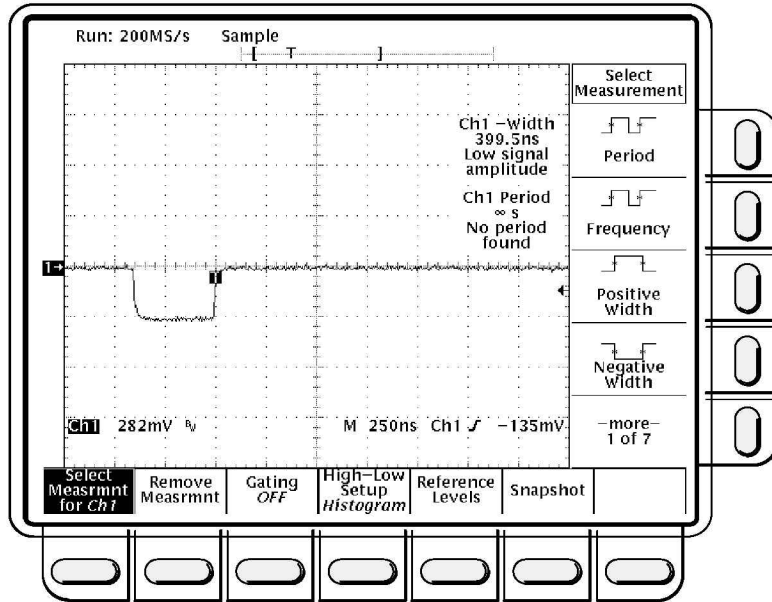

Figure 4-39: Sync Duty Cycle Test: One-Div Neg Pulse Waveform
- Turn the pulse generator's **OUTPUT (VOLTS)** control until the signal on the oscilloscope shows a one division negative going pulse (see Figure 4-39).